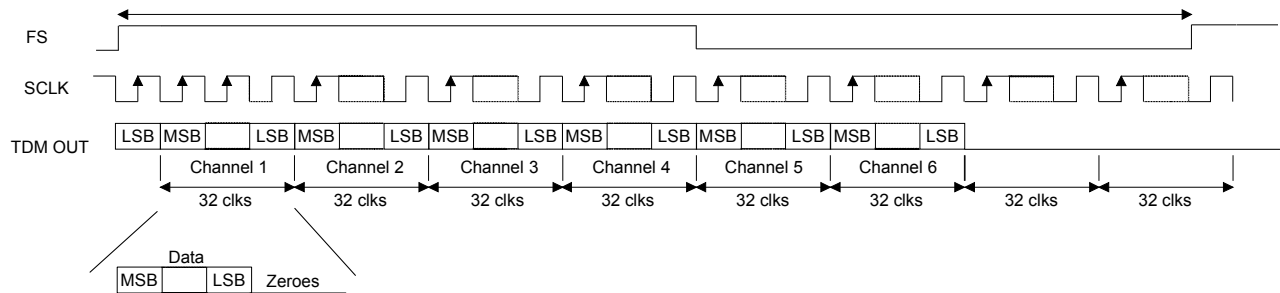

Figure 12. TDM Format
In TDM Mode, all six channels of audio data are serially clocked out during a single Frame Sync (FS) cycle, as shown in Figure 12. The rising edge of FS signifies the start of a new TDM frame cycle. Each channel slot occupies 32 SCLK cycles, with the data left justified and with MSB first. TDM output data should be latched on the rising edge of SCLK within time specified under “Serial Audio Interface - TDM Timing” section on page 16. The TDM data output port resides on the SDOUT1 pin. The TDM output pin is complimentary TDM data. All SDOUT pins will remain active during TDM Mode. Refer to Section 4.11 “Optimizing Performance in TDM Mode” on page 29 for critical system design information.